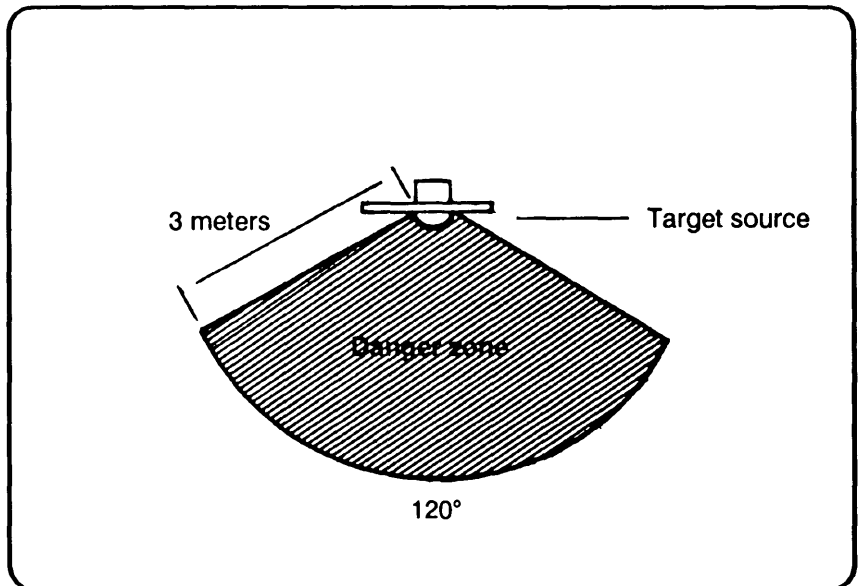

Figure 6-9. Target source danger zone.
WARNING: During operation, do not look into the target source lamp when in the danger zone. (See Figure 6-9.) Do not look at the target source through vehicle mirrors or any other reflective surface. Serious eye damage could result, requiring immediate medical attention. Also, do not look into the infrared lamp (target source) when within 3 meters of the target source.
(1) *Target source.* The target source operates at training frequency (5 KHz) and simulates the missile flare. Personnel must not enter the danger zone while the target source is operating (Figure 6-9).
- 3. Do not allow personnel to enter the danger zone (see Figure 6-9) while the target source is in operation.